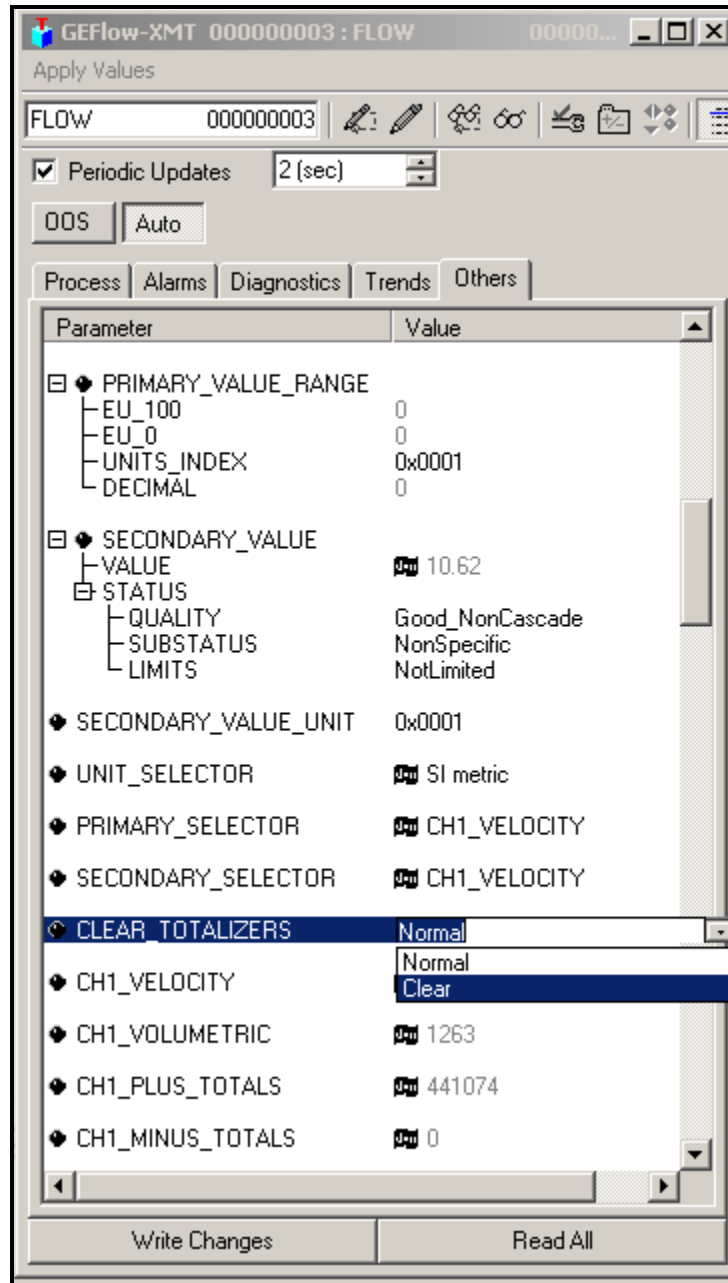

Figure 50: Clear Totalizers Drop Down List
3. Select **Clear** from the drop down list box (see Figure 50).